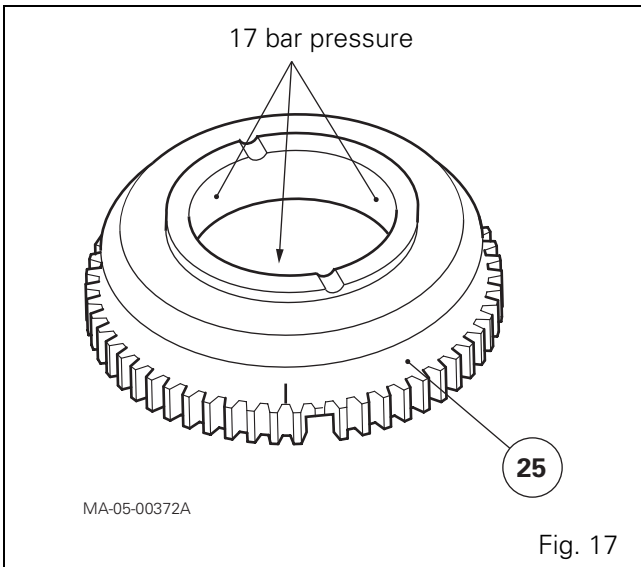
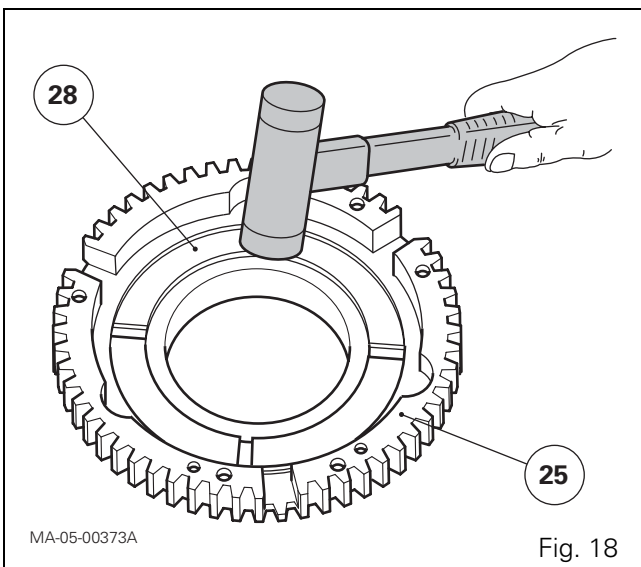

Fig. 17
Fig. 18
42. Make sure that the three ports of the 17 bar pipe on the hydraulic cover (25) are not blocked (Fig. 17).
43. Lubricate seals (26) and (29) and fit them on piston (28).
46. Fit the piston (28) using a plastic mallet, gradually and alternately striking around the circumference of piston (Fig. 18).